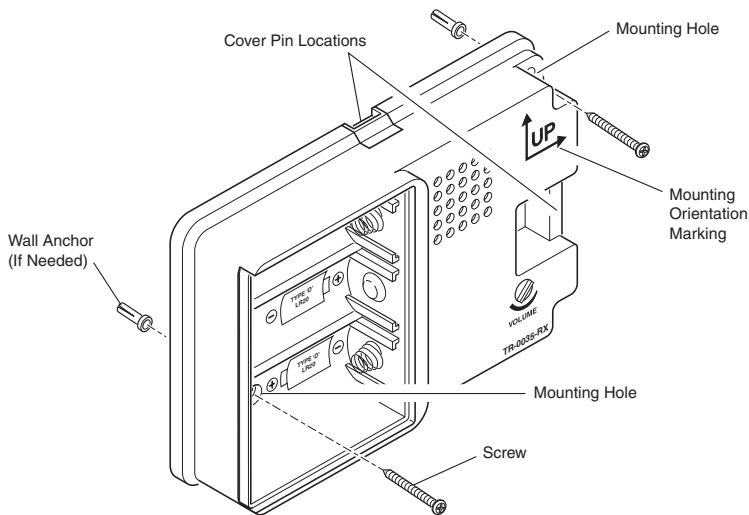

Figure 8
- Use all 4 chime mounting holes as a template (see Figure 8). *Note:* 2 mounting holes are located inside battery compartment. Remove batteries before mounting.